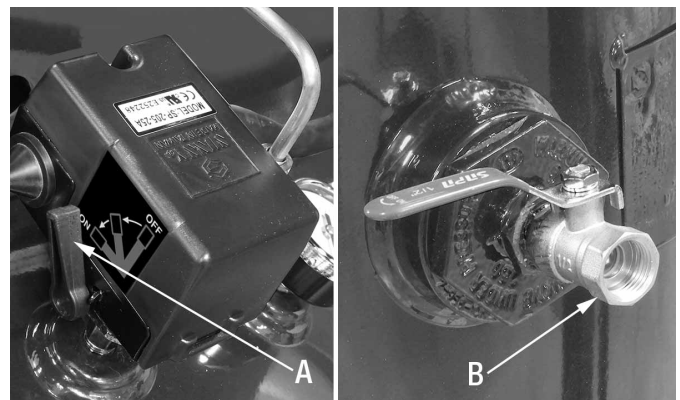

FIGURE 6
- 5) Move the pressure switch lever (A) Fig.6 to "ON/AUTO". The compressor will start.
The pipe gets installed to the 1/2" ball valve (B) Fig.6.